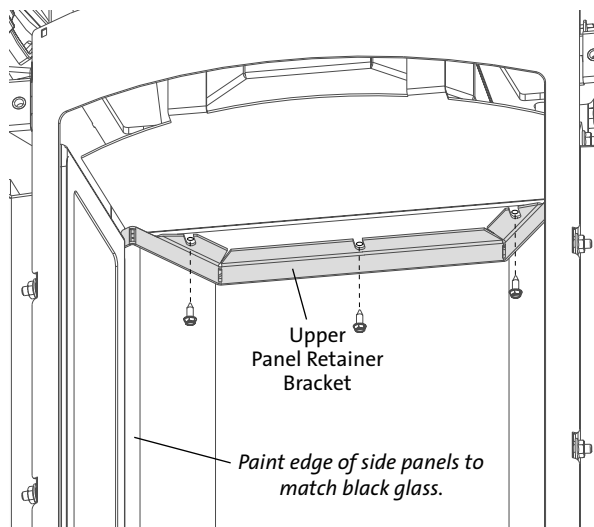

Figure 25. Loosen the panel retainer screws.
1. Remove the Upper Retainer Bracket from the firebox with removal of three #8 x 12 sheet metal screws. See fig. 25.